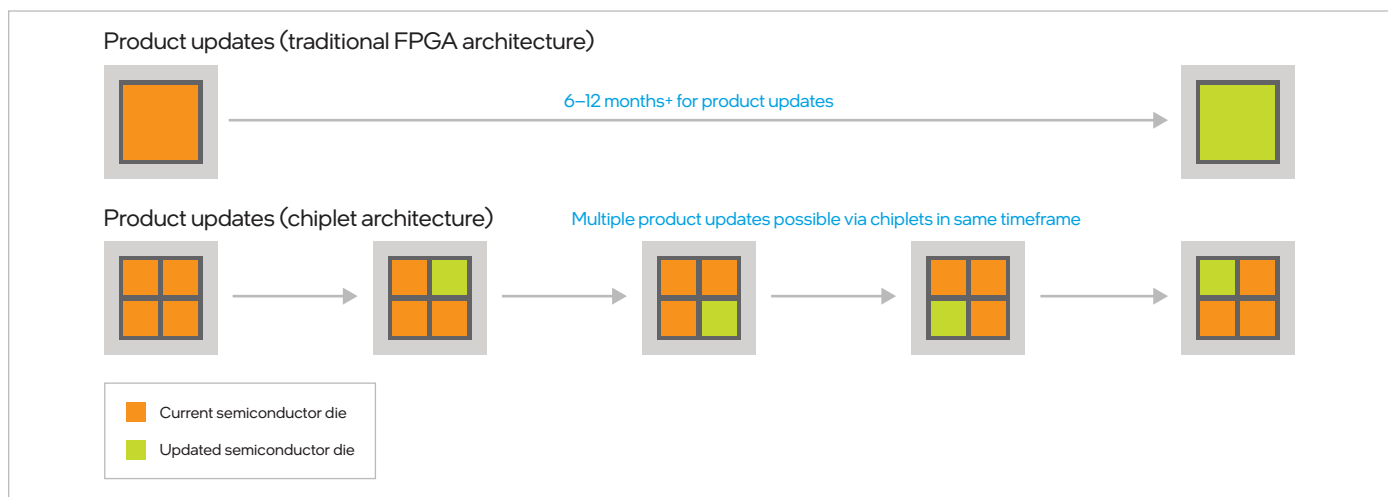

Figure 8. Traditional FPGA update schedule vs. chiplet-based updates
A better, more versatile approach can be achieved with Intel chiplets. A chiplet or tile is a physical intellectual property (IP) block designed to integrate with other chiplets through package-level integration and standardized interfaces. Like LEGO blocks, chiplets enable mix-and-match infrastructure. Chiplets allow new products to be created with greater functionality, improved agility, and shorter time to market, as shown by Intel FPGA early support for 116 G XCVR, CXL, and PCIe Gen5 technology. This advantage is shown in Figure 8.